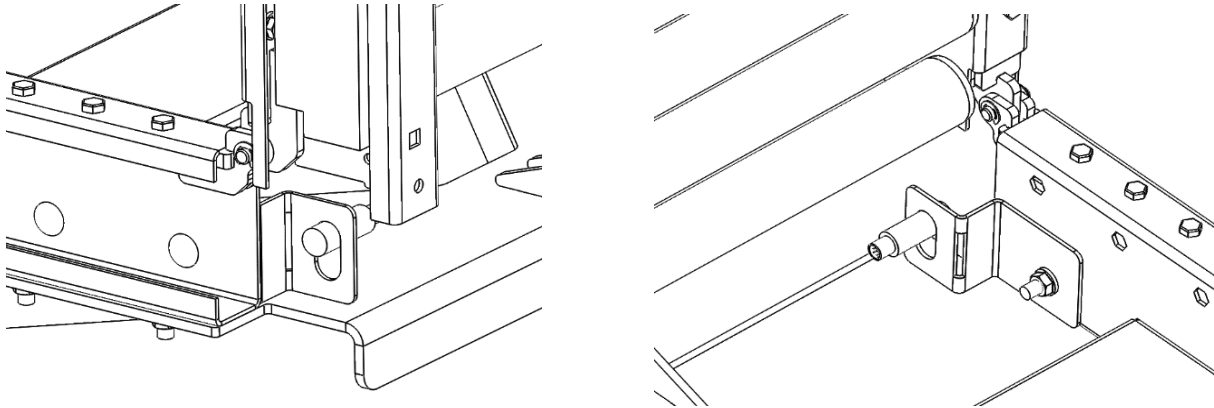

Figure 12: Proximity Sensor Mounting
10. To finish the install of the gate, mount the proximity sensor. The proximity sensor and the mounting bracket will be included in the ship loose kit that comes with the gate. Figure 12 shows how to correctly mount the sensor.